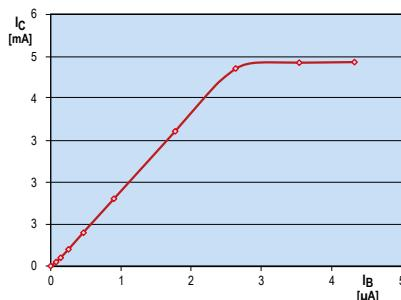

Figure 3. Collector current as a function of base current.
**Figure 3** ( $I_C$  versus  $I_B$ ) shows that the collector current increases linearly with the base current (in the first approximation) until it stops rising at just under 5 mA, which is called the saturation point of the transistor. In any case it isn't possible to measure more than 5 mA with this circuit because the collector resistor limits the current to 5 mA ( $5 \text{ V} \div 1 \text{ k}\Omega = 5 \text{ mA}$ ). You can also clearly see that even this 5 mA limit cannot be reached. The transistor is driven fully into conduction ('hard on'), with a residual collector-emitter voltage of slightly less than 0.1 V.